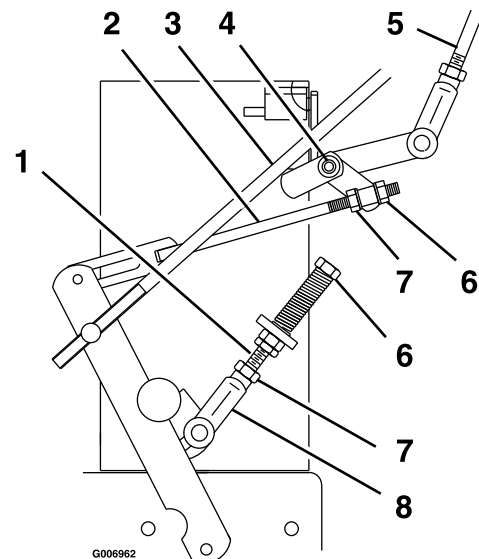

Figure 18
- Loosen the nut against the neutral control linkage yoke as shown in Figure 18.
2. Loosen the front nut on left hydro control linkage as shown in Figure 18. Turn the rear control linkage adjusting nut counterclockwise until wheel rotates forward. Turn the rear nut of left control linkage clockwise 1/4 of a turn at a time, stopping to move the speed control forward and back to neutral, until left wheel stops rotating forward.